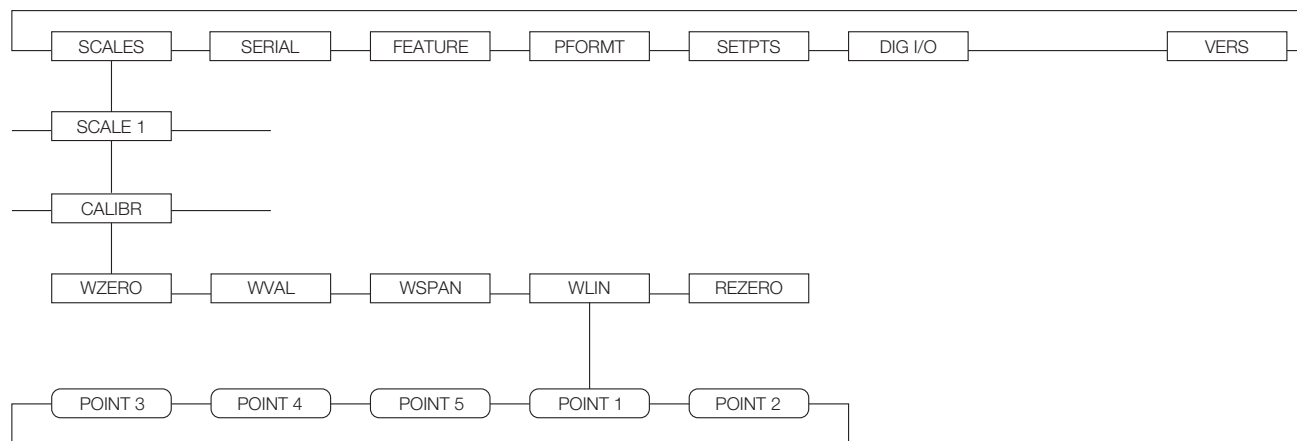
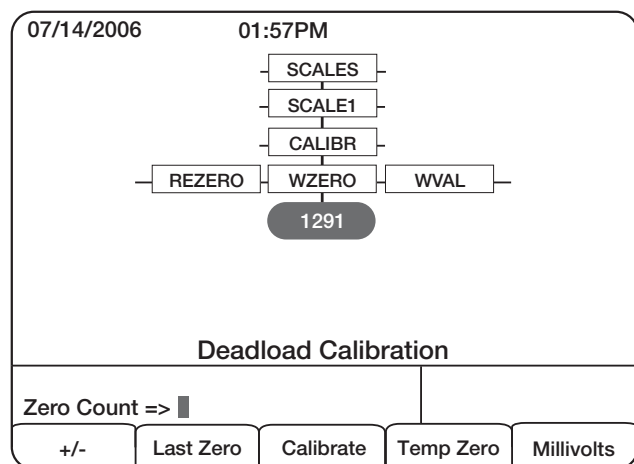

Figure 4-1. Calibration (CALIBR) Submenu
Figure 4-2. WZERO Calibration Display
The CALIBR submenu (under the SCALES menu, see Figure 4-2) is used to calibrate the 920i. The zero, span, and linear calibration point displays provide a set of softkeys used specifically for calibration procedures:
2. With the **SCALES** menu highlighted, press the **down** key, then select the scale to be calibrated. Press **down** again (**GRADS** parameter highlighted), then press **left** to highlight the **CALIBR** submenu (see Figure 4-1). Press **down** to go to zero calibration (**WZERO**). See Figure 4-2 on page 56.